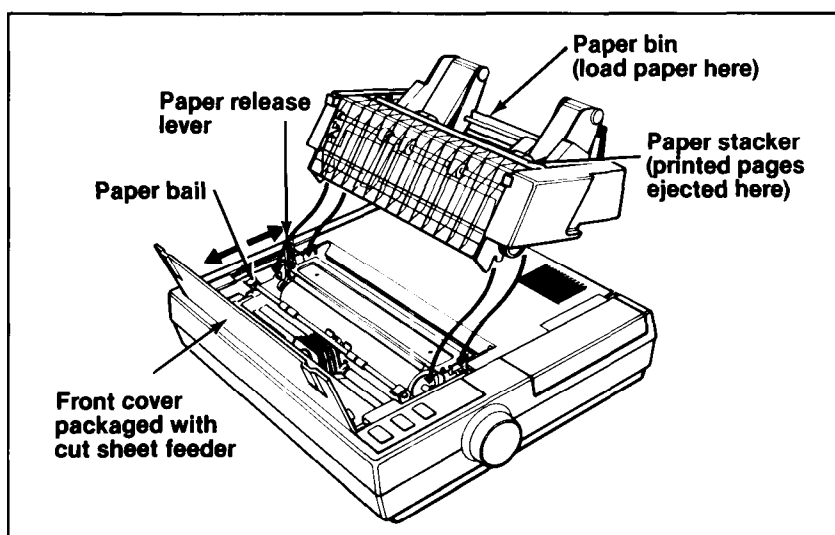

Figure 2-1. Preparing the printer for installation
3. Remove the front cover that came installed on your LQ by tilting it up and lifting it off the printer. Replace it with the new cover included with the cut sheet feeder, as shown in Figure 2-1. Leave the new cover in an upright position so you can see inside the printer. Also remove the single-sheet guide.
4. Make sure the paper release lever is pushed back as shown in Figure 2-1. If this lever is not pushed back, the cut sheet feeder will not fit or operate properly.
5. Pull the paper bail away from the platen (the black roller) as shown in Figure 2-1. The paper bail should remain in this position whenever the cut sheet feeder is installed.
7. Hold the cut sheet feeder assembly in two hands, and press the two cut sheet feeder release levers shown in Figure 2-1.